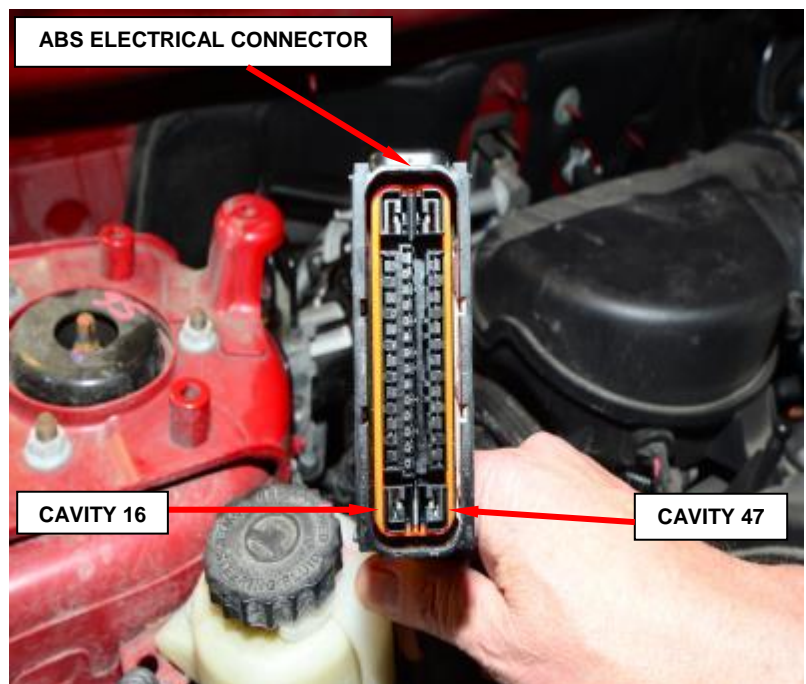

Figure 12 - ABS Ground Terminal Locations
5. Remove the two black ABS electrical connector ground wire terminals from cavity numbers 16 and 47 of the ABS control module electrical connector (Figure 12).